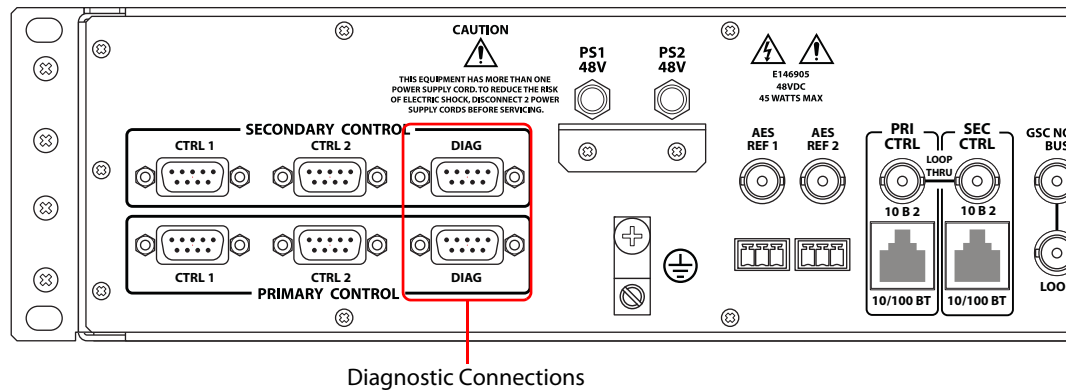

Fig. 1-6: Diagnostic Connections (Rear View)
Diagnostic connections connect the EC9535 to the computer (PC) running the UniConfig application. Two diagnostic connections are located on the rear of the EC9535, labeled 'DIAG'. The ports are divided into two sets: one primary and one secondary, as shown in Figure 1-6 on page 5. The primary control connects to EC9535's primary control card. The